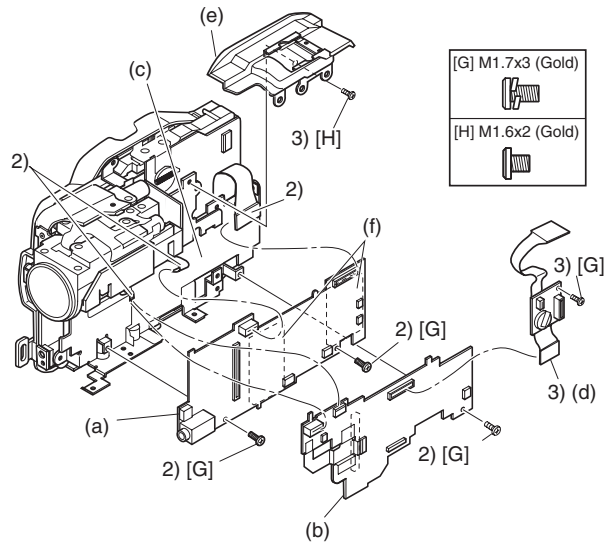

Fig. 4-7-7 Setting to service position (B) -1/2-
- 3) Assemble the SHE-H/SHE circuit board and accessory shoe. (See Fig. 4-7-7)